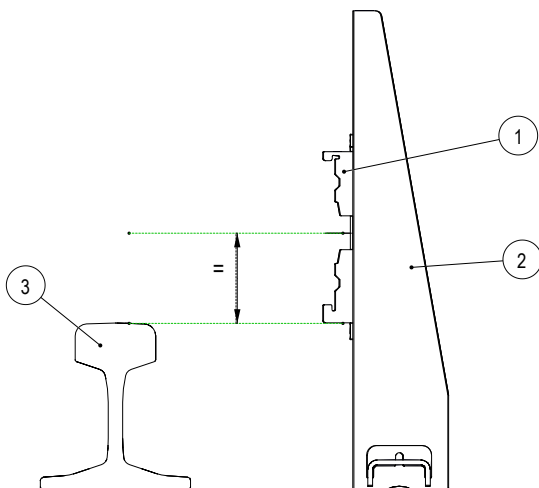
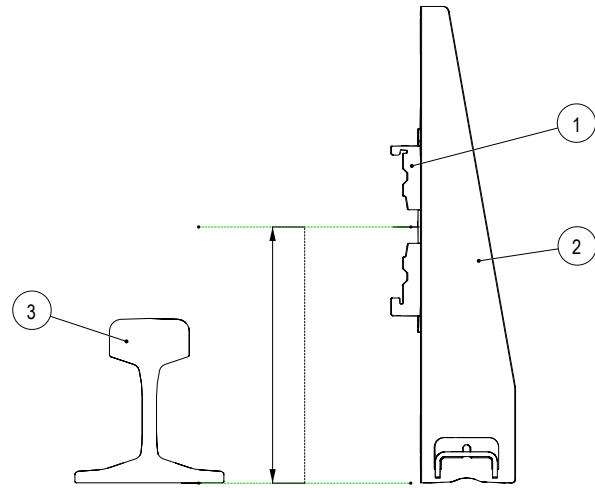

Fig. 18: The system holder is aligned with the SRU track rail
Fig. 19: The system holder is aligned to the floor
1. Align the system holder (1) on the track profile of the customer's vehicle (e.g. RBG track rail (3)) as a reference point using a leveling tool (e.g. positioning laser) (see Fig. 18 and Fig. 19).
2. Tighten the system holders (1) on the brackets (2) with the hexagon head screw (6), washer (5) and hexagon nut (4) (SW13, torque wrench: 20 Nm). Make sure that the upward curved retaining lugs of the system holder are always on top.